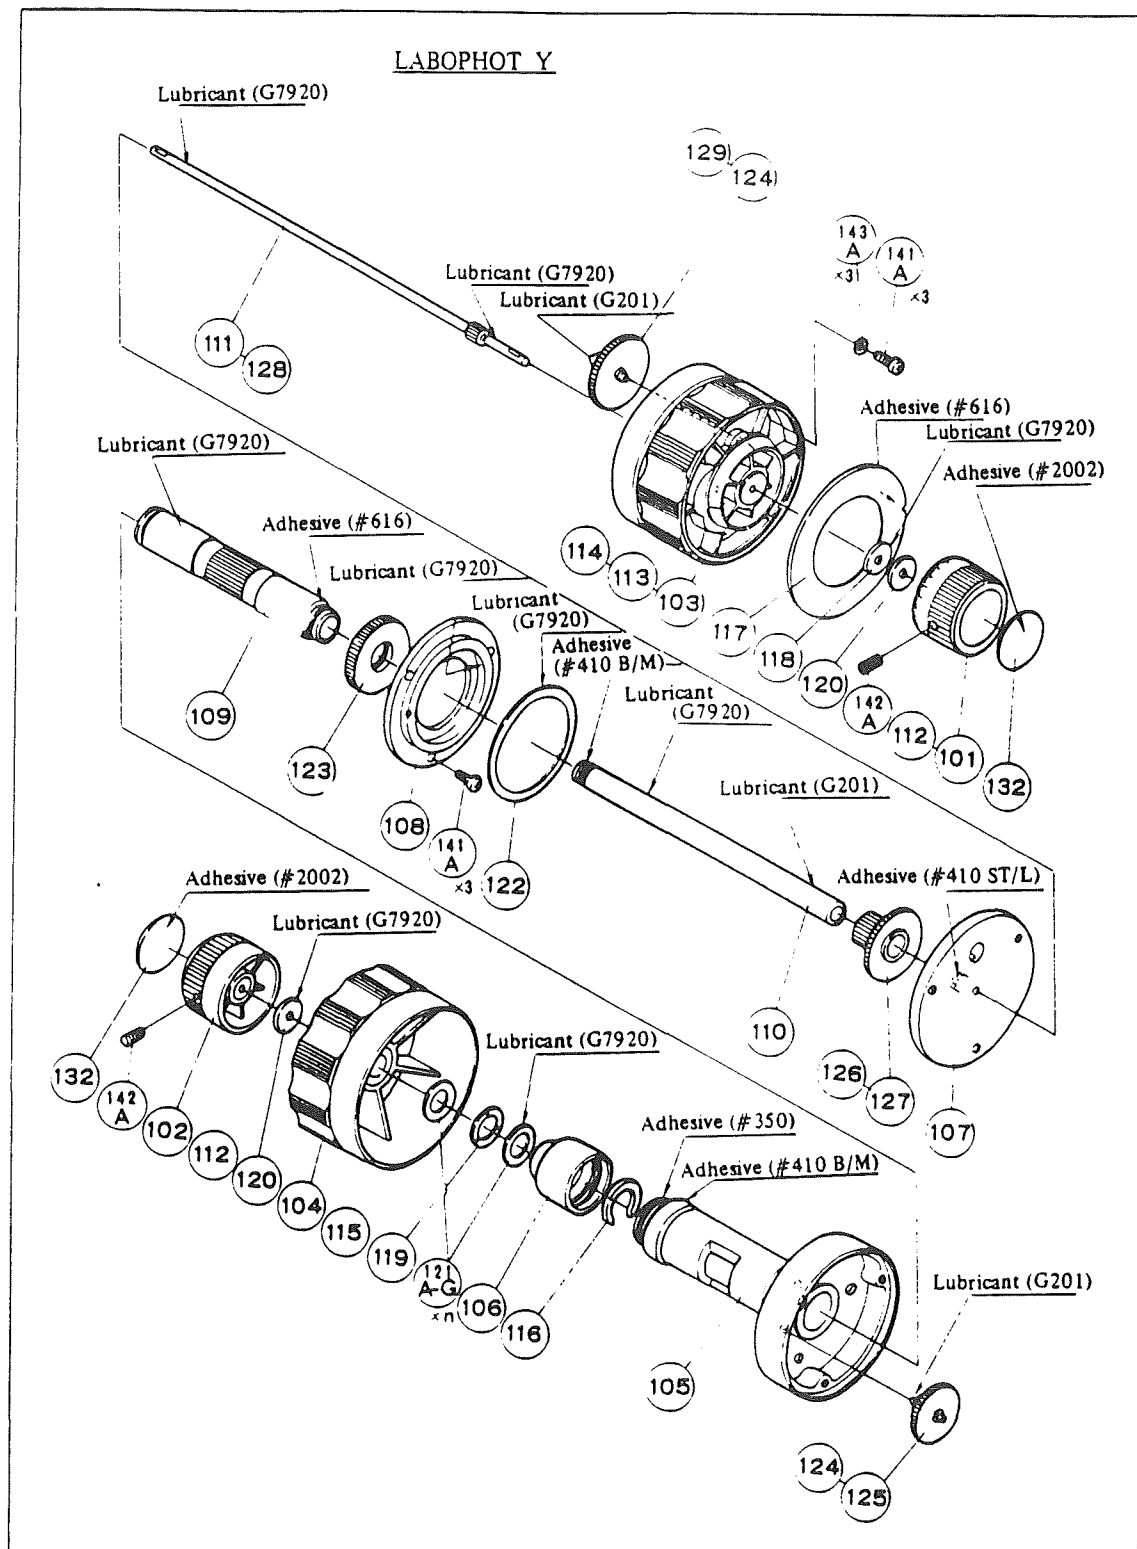

Fig. 10
1. Coaxial Coarse and Fine Focus Unit (OPTIPHOT, LABOPHOT) (Fig. 10)